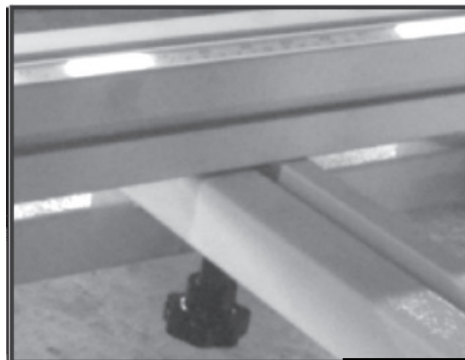

Fig. 19
4. Insert the center stud and T-bolt in the places indicated (Fig. 19)